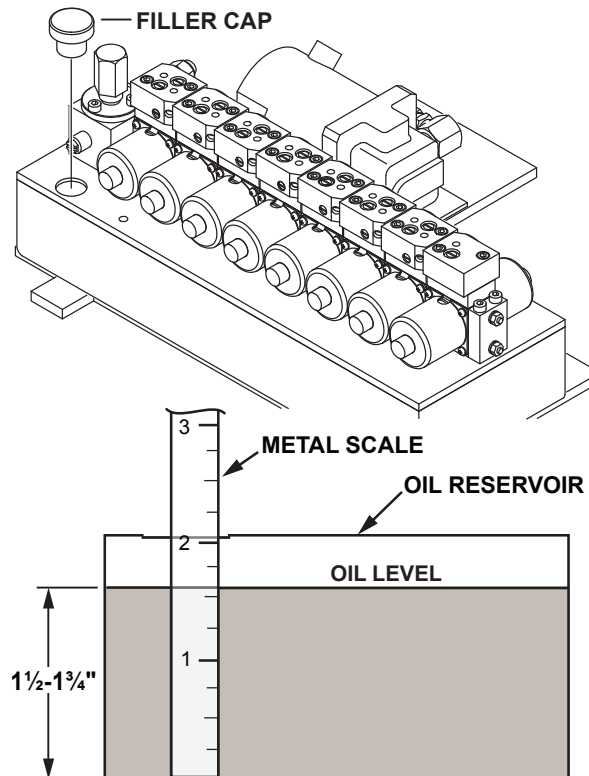

Figure 33. Oil Reservoir
3. Remove the oil filler cap from the oil reservoir (Figure 33).